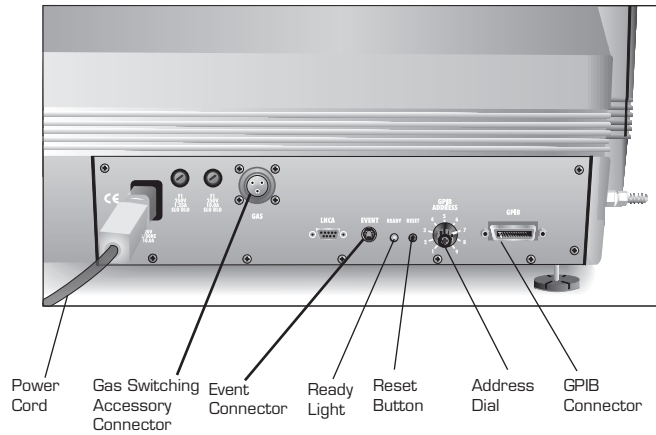

Figure 2.4
1. Locate the GPIB connector on the right rear of the instrument (see Figure 2.4).